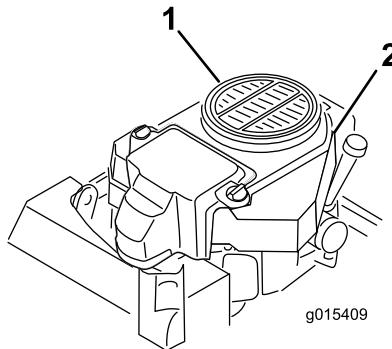

Figure 62
3. Remove the air-intake screen and fan housing (Figure 62).
5. Install the air-intake screen, the recoil starter, and the fan housing (Figure 62).